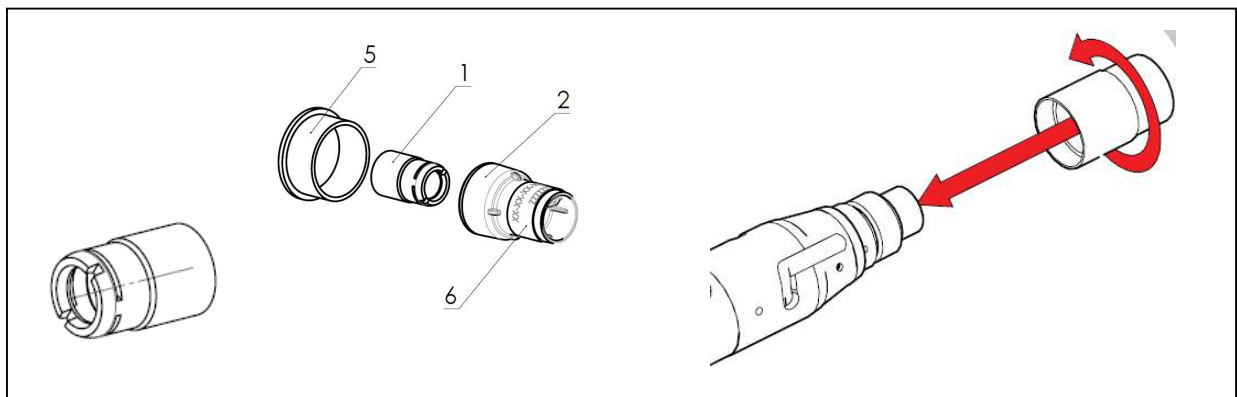

Figure 12.1.8: LLK-Q Window Assembly and Packaging
- Refer to figure 12.1.8 below; the replacement window assembly (1) is packaged within items 2, 5 and 6.
- Remove item 5 from the packaging facing down to ensure no particles can enter the inside of the window assembly.
- The replacement window assembly (1) should be held by items 2 & 6. Carefully place the replacement window assembly onto the LLK-Q connector taking care not to make contact with the quartz block.
- Remove the window assembly holder (2 & 6); turn the holder around and refit such that item 6 (the tool) now locates on top of the new window assembly.